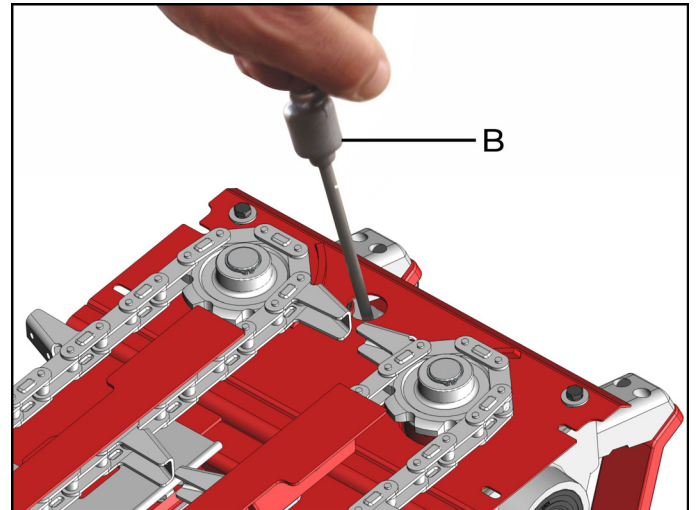

fig. 11
2. Use the dipstick to measure the level (B) (fig. 11) by placing it in the corresponding opening;